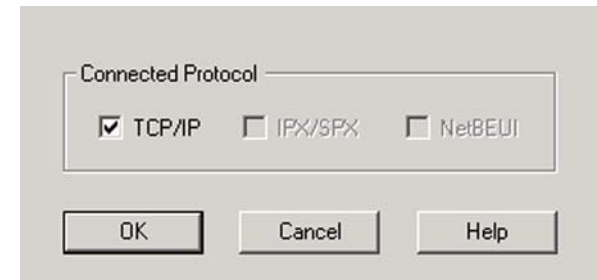

Figure 8-7: Searching for Device
2. When the Bi-Admin Management Utility appears, it will ask for the Connected Protocol. (See Figure 8-7.) Make sure the box next to TCP/IP is checked. Click the **OK** button.